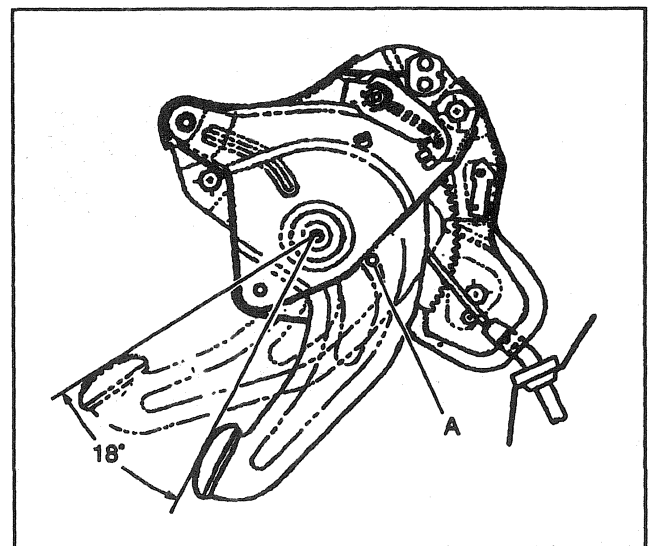

Figure 4—Parking Brake Adjustment Setting
- Insert a 3 mm (.125 inch) pin into locating hole (A) in the pedal assembly (Figure 4). Push the pedal downward until the pin contacts the parking brake outer flange.
Adjust (Figures 4, 5 and 6)
- Insert a 3 mm (.125 inch) pin into locating hole (A) in the pedal assembly (Figure 4). Push the pedal down until the pin contacts the parking brake outer flange.